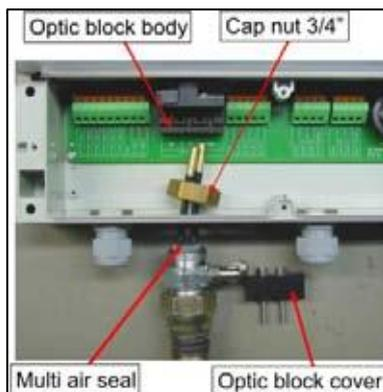

Fig. 2.14. Connecting cables to optical unit.
5. Open the optics block cover, slide the cables through the bushing hole, cap nut and tighten the bushing loosely, Fig. 2.14.